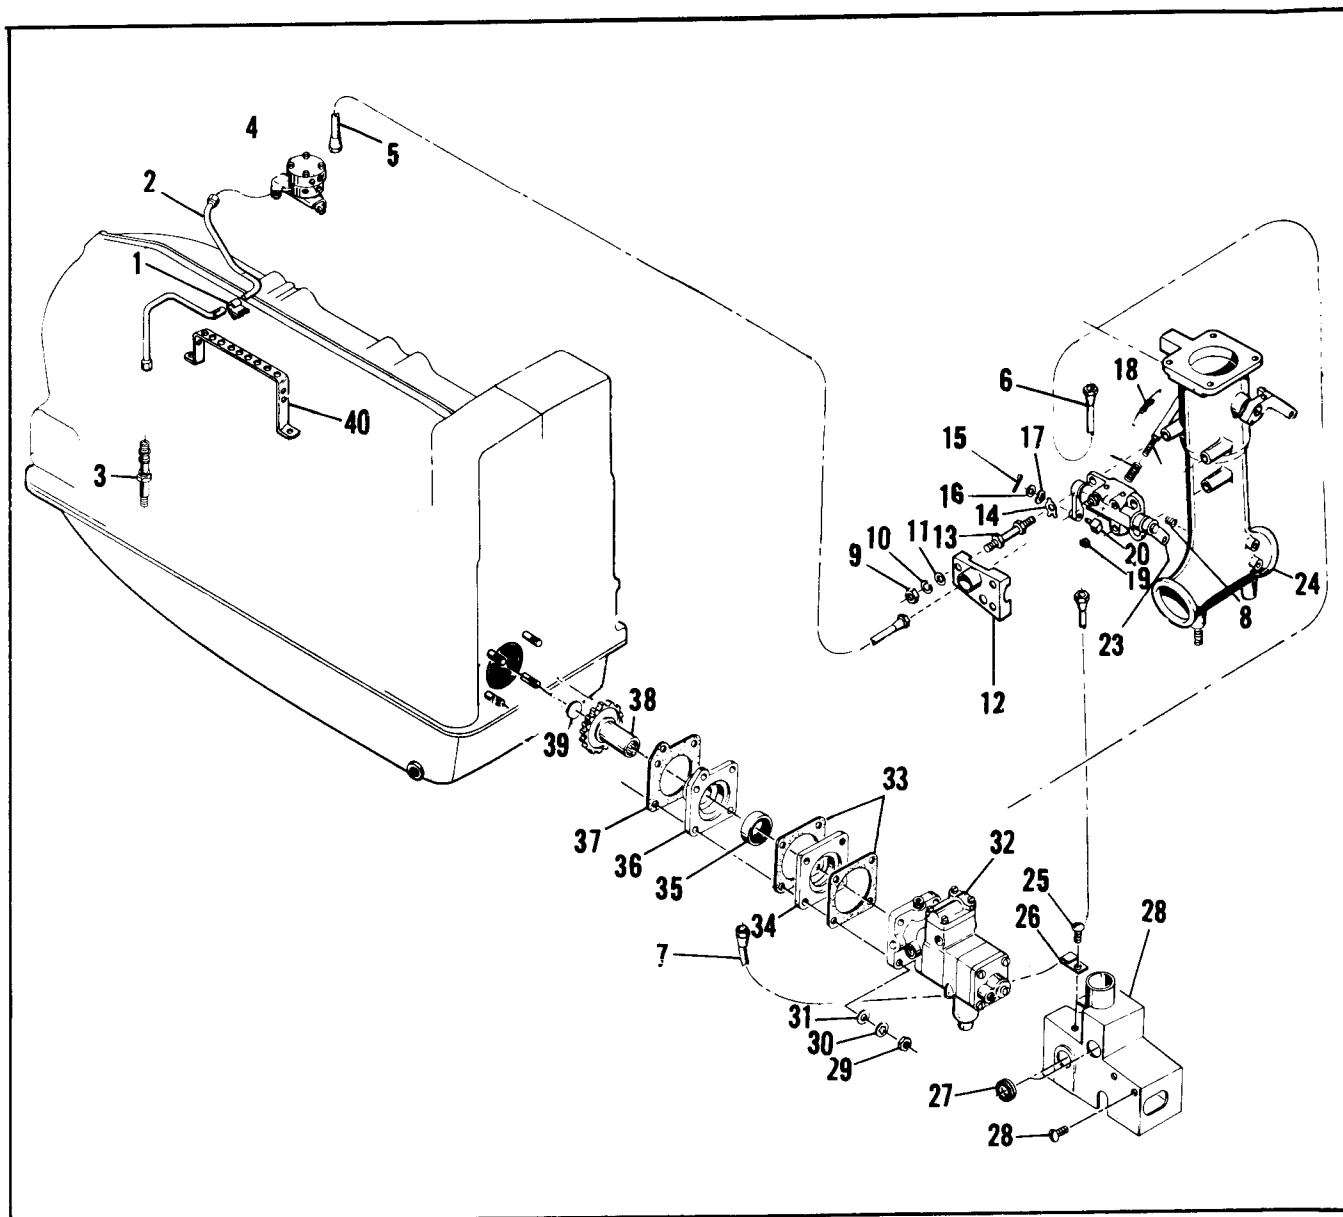

FIGURE 4-7. FUEL INJECTION SYSTEM, TSIO-520-C, G & H.
4-15. FUEL INJECTION SYSTEM, TSIO-520-C, G & H (See Figure 4-7).
- a. On the 1-3-5 crankcase, remove four sets of attaching parts (1,2,3), cover (4) and gasket (5).
- b. Remove three sets of attaching parts (6,7,8), one set of attaching parts (9,10,11), bracket (33, Figure 4-7), adapter (12) and gasket (13). On the permold engine, remove the external oil filter bracket. If the AC filter is used, the Red Seal filter does not require bracketing. With the aid of an arbor press, remove bushing (14) and seal (15) from adapter.
- c. Remove magneto and accessory drive gear and sleeve assembly (16,17), magneto drive coupling bushings (19) and retainer (18).